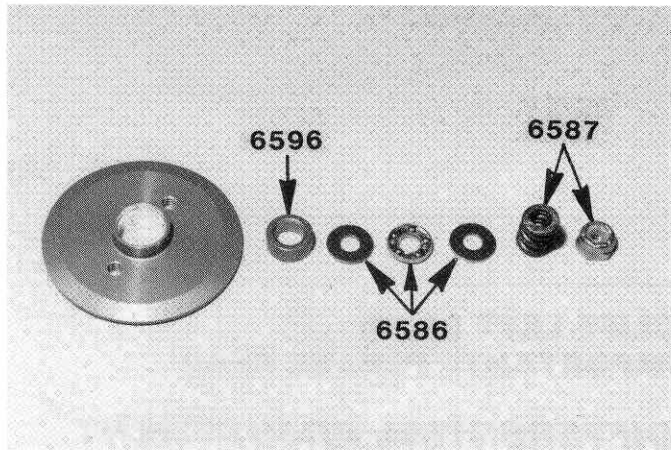

Fig. 65
□ **Fig. 65** Now we'll be assembling these parts, in the order shown in the photo, onto the #6571 shaft. First, install the #6596 3/16" x 5/16" bushing from Bag B into the clutch hub. Now slide the hub onto the shaft, making sure the clutch disk stays centered on the hub.